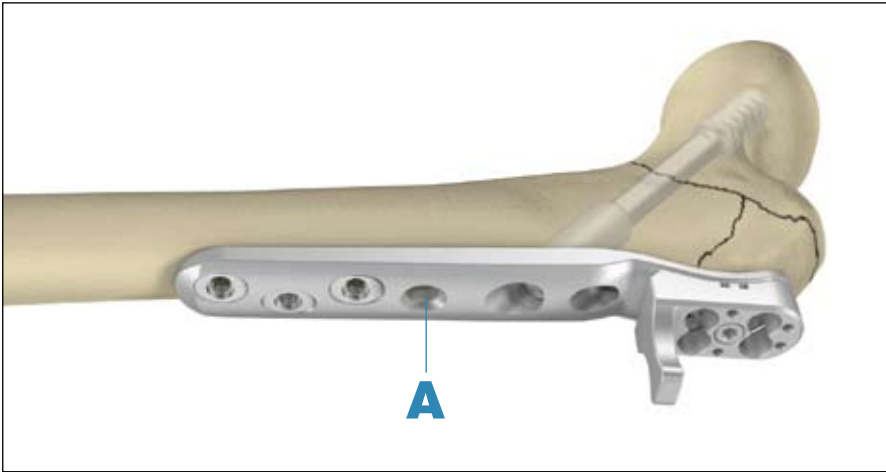
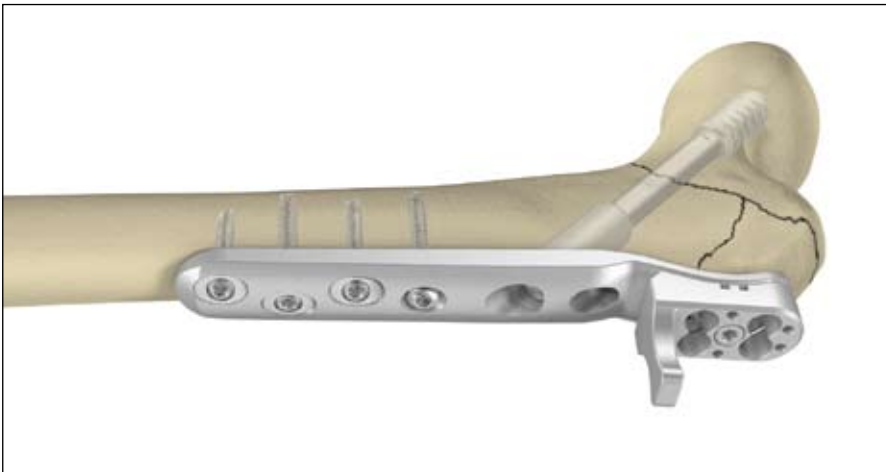

Fig. 5: Fixation of the Omega3 Trochanteric Stabilizing Plate to the femoral shaft. The hole (A) should be filled first with a standard 4.5 Cortical Screw.
Fig. 6: Shaft holes with a 4.5mm Cortical Screw and locked with a maximum of three 5.0mm Locking Screws for optimal fixation along the femoral shaft.
Fixation of the Omega3 Trochanteric Stabilizing Plate to the femoral shaft is performed before any screw is inserted into the spoon section (proximal end of the plate). Use a Standard 4.5mm Cortical Screw in the first hole (A in Fig. 5) of the shaft of the plate.
Note: This first hole (A in Fig. 5) does not accept a Locking Insert and Locking Screw. Before drilling and inserting this first screw make sure that the plate is in line along the femoral shaft. If necessary check with the image intensifier from medial to lateral (ML).
Then all holes distal to the placed Cortical Screw (in hole A in Fig. 5) are filled either with standard Cortical Screws or Locking Inserts with 5.0mm Locking Screws for axial stable fixation in the shaft (Fig. 6).